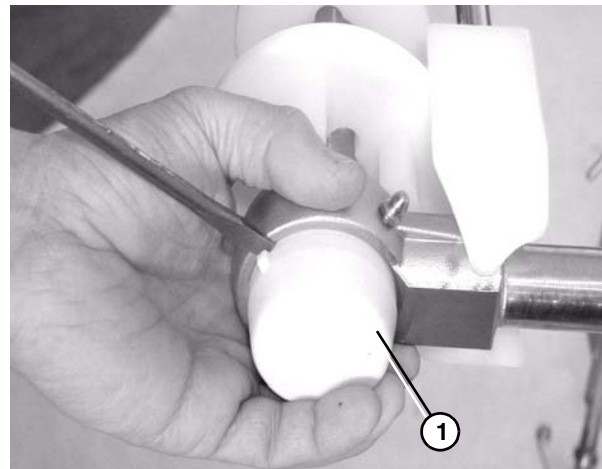

Figure 67
3. Remove the bearing cover (**Figure 67**, item 1).